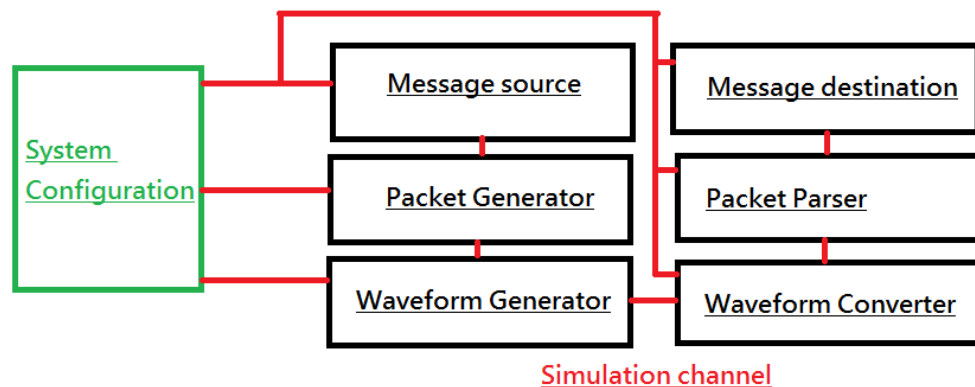

Figure 9: Structure of the Second Simulator
The overall structure of the communication system is shown in Fig. 9. The architecture of the system can be divided into six parts. Each part are implemented as a loop. We will not explain the details of each loop. The goal of this part is to learn how to use this simulator. Therefore, we will explain the parameters of some **LabVIEW** blocks. Modules to be explained are listed below. All of them are located in “RF communications/Modulation/Digital”:
- **MT Generate System Parameters.vi:** Use this module to specify the modulation scheme you want to use for a system. The inputs include: samples per symbol, M-ary and other options for certain modulation. The outputs include a symbol map which is a complex array of size M. The purpose of the input “samples per symbol” is for pulse shaping filtering purposes. This block is often used in system configuration part as shown in Fig 9.